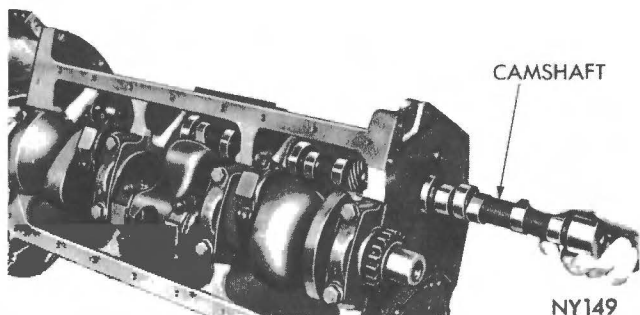

Fig. 28 - Installing camshaft.
(1) Lubricate the camshaft lobes and camshaft bearing journals and insert the camshaft in the cylinder block (Fig. 28).